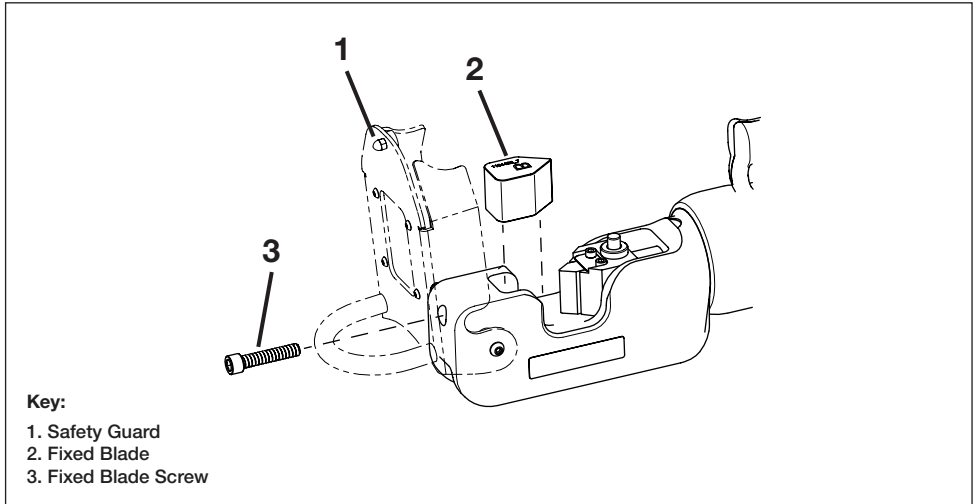

Figure 13, Fixed Blade Replacement
Replace the fixed blade as described in the following steps. Refer to Figure 13, items 1 through 3.